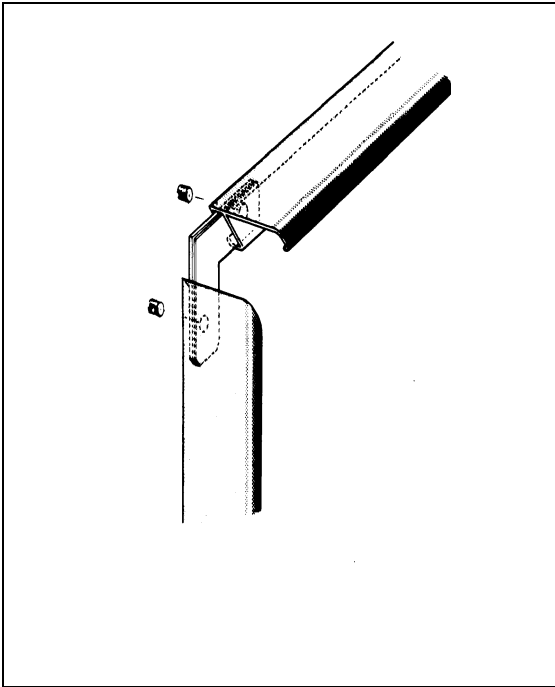

Figure 14
4. Attach the left and right trim sides to the top trim with the corner brackets supplied (Figure 14).